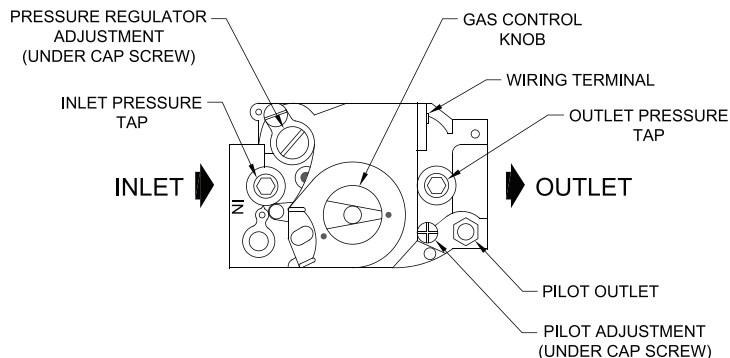

Figure 10.2: Top View of Gas Valve
- Connect a manometer to the inlet pressure tap on the gas valve (see Figure 10.2).
5. Connect a manometer to the manifold (outlet) pressure tap on the gas valve (Figure 10.2).